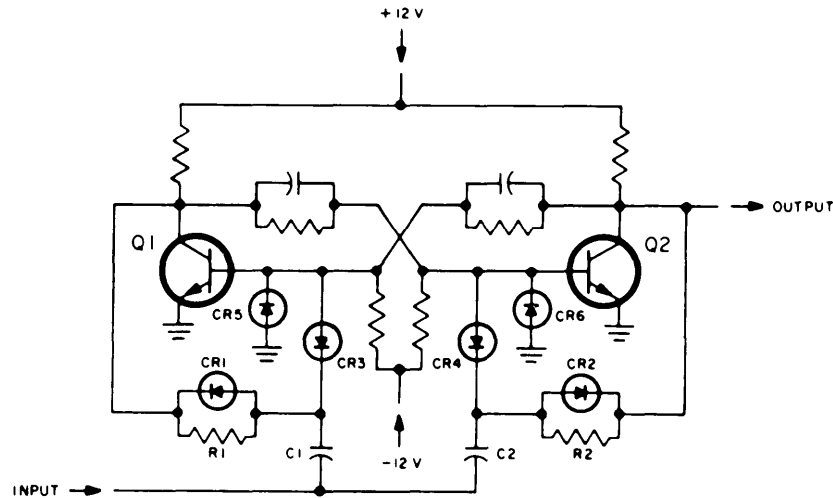

Figure 4-20. Typical Low-Speed Count Decade Flip-Flop, Simplified Schematic Diagram
Each count decade consists of four bi-stable multivibrators (flip-flops) coupled together in such a way so as to produce one output pulse for each ten input pulses. Figure 4-20 shows a typical flip-flop used in the 10-mc and 300-kc counting rate decades. Reference designators assigned in figure 4-20 apply to figure 4-20 only.
c. USEFUL ILLUSTRATIONS. - Illustrations useful in maintaining this functional section are: figures 4-20, 4-21, 4-22, 4-23, 4-24, 5-47, 5-48, 5-49, 5-72, 5-73, 5-74, 5-75, and 5-76.